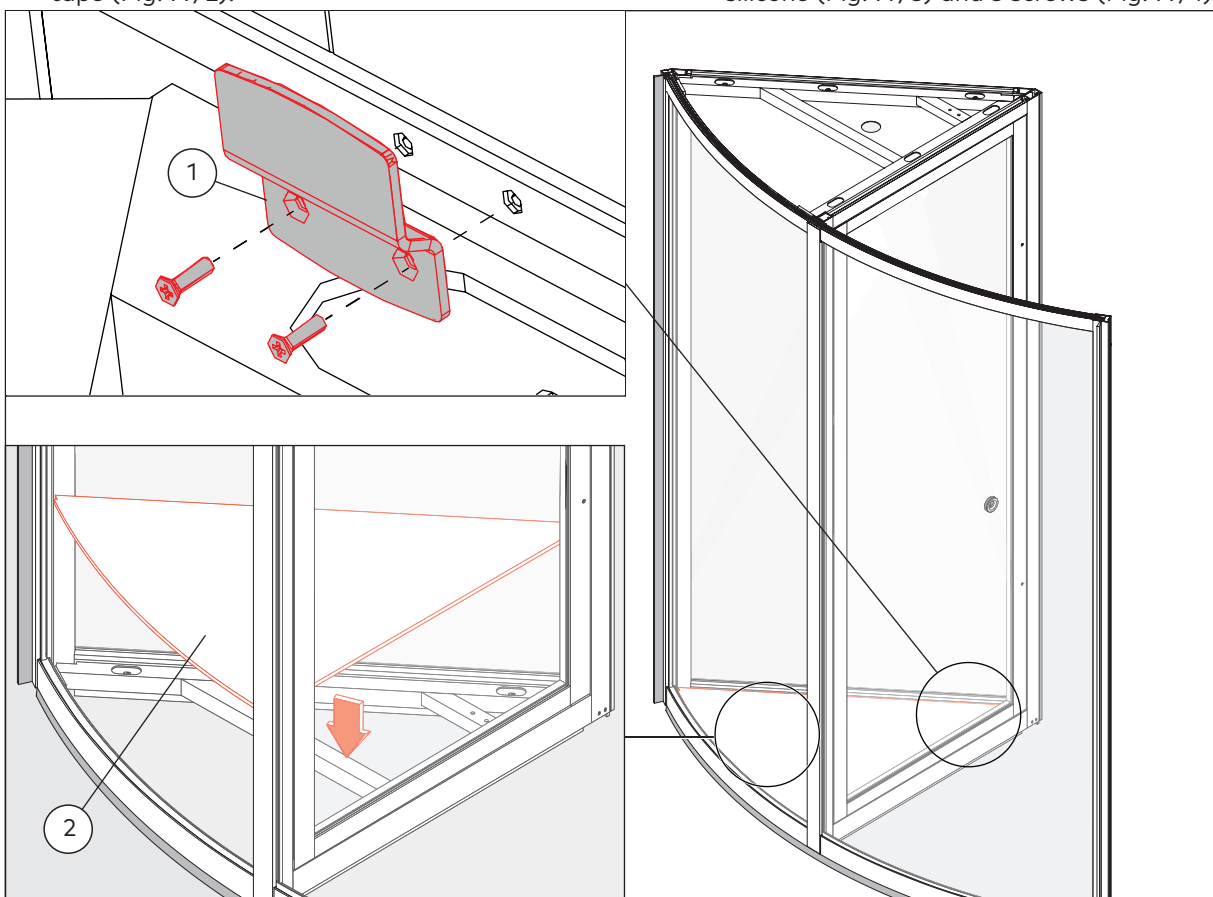

Fig. 78 Mounting the floor of the showcase
6. Fix the door stopper (Fig. 78/1) with 2 screws.
7. Mount the floor (Fig. 78/2).